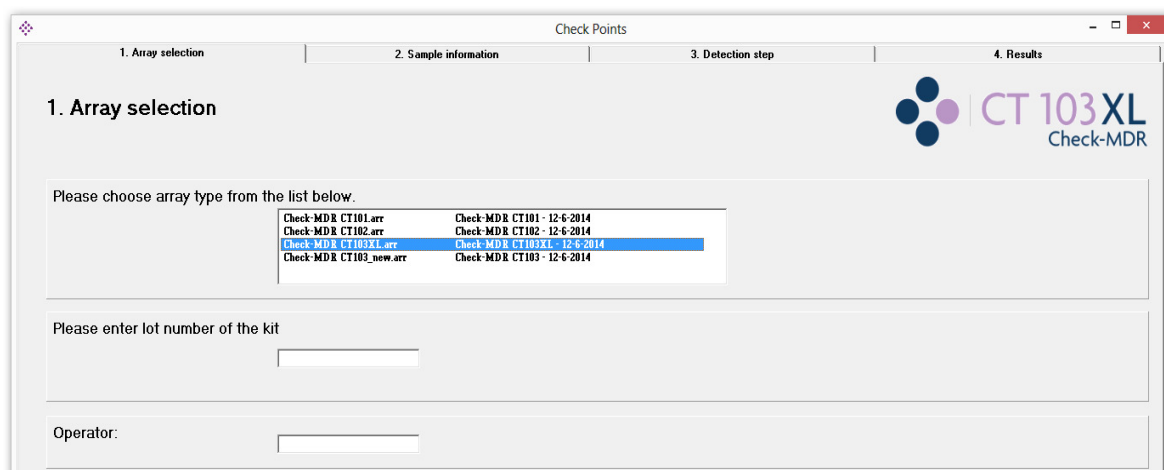

Figure 2: “Array Selection”.
- c. Double Click on “Check-MDR CT103XL .arr” in the first screen, “Array selection”, as shown in figure 2.